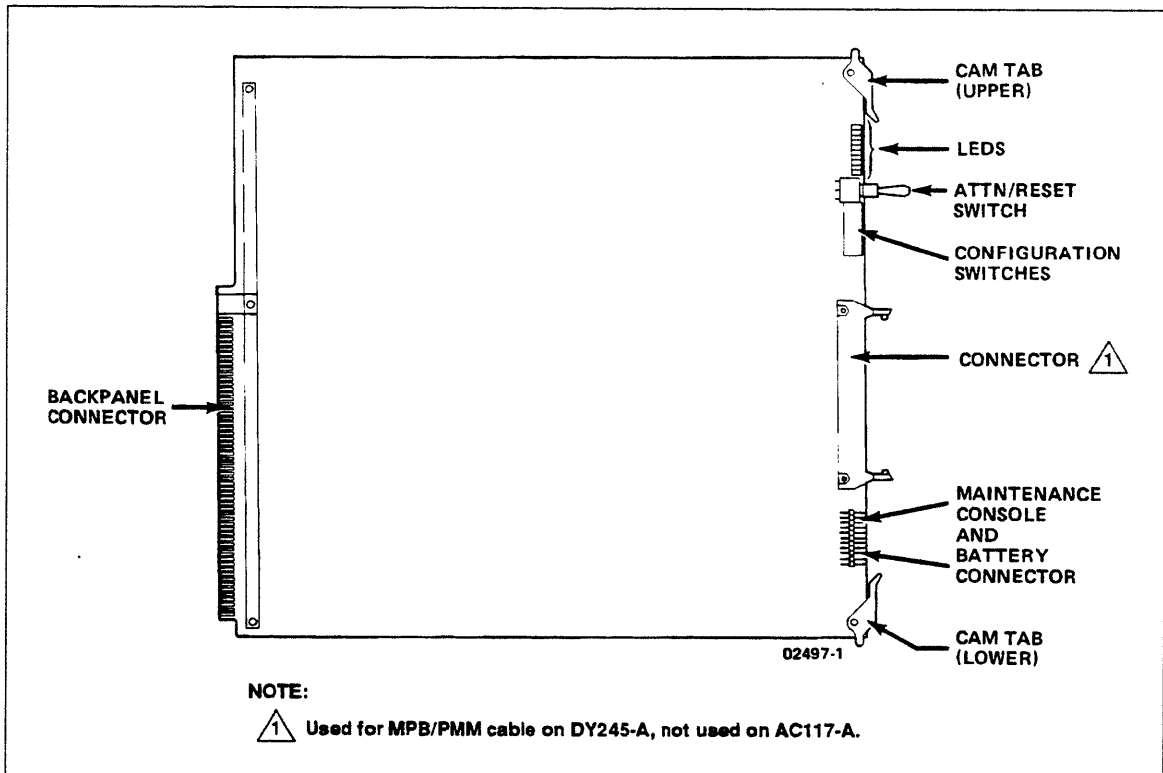

Figure 3-15. Main Processor Board (MPB)
1. Unpack MPB (figure 3-15), equipment identification tag, and FCO label. Attach equipment identification tag and FCO label to plastic fold-out holder inside DI cabinet door.
- a. Ensure that both upper and lower cam tabs are in the unlocked position (pointing toward you like the lower cam tab in figure 3-15).